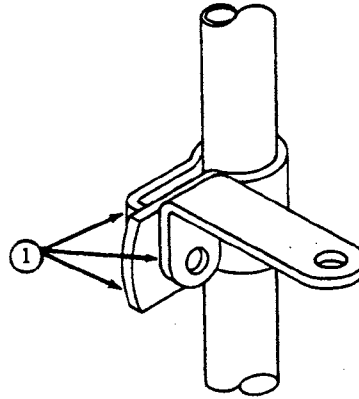

Fig. 7-Light Clamp and Mounting
1. Attach two clamp halves and a mounting bracket, for each of three lights, to handrail with a $1/2 \times 1-1/2$ -inch cap screw, lock washer, and nut (Fig. 7). Do not tighten cap screw.